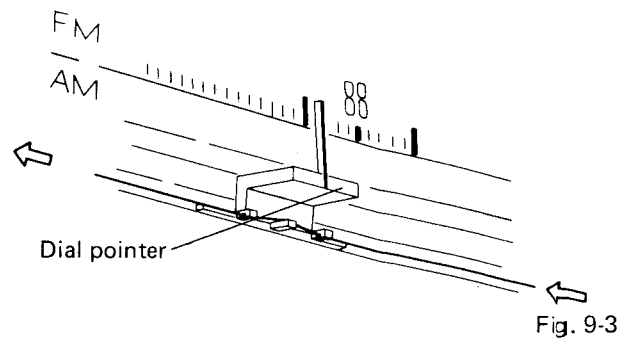

Fig. 9-3
10. Next turn the TUNING knob in a counter-clockwise direction as far as it will go, and attach the dial pointer to the dial cord so that the pointer reads 87MHz (see Fig. 9-3).